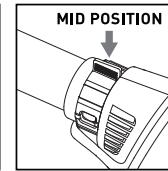

Fig.7
- Solid Flame (Approx. 1300°C): Please set the **Air Control Ring** to the mid position. (Fig.7)